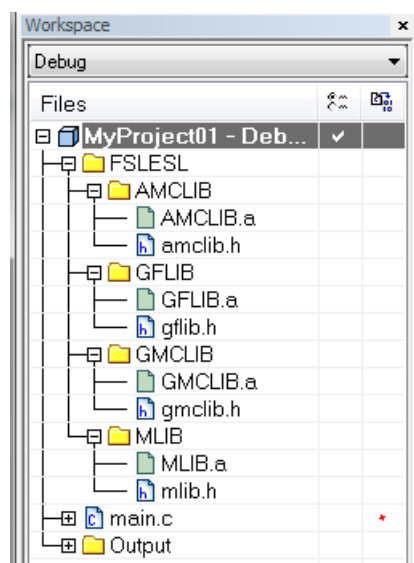

Figure 1-35. Project workspace
4. Click on the newly created node MLIB, and go to the main menu Project > Add Files... See Figure 1-35.
23. Now you will see the files added in the workspace. See Figure 1-35.